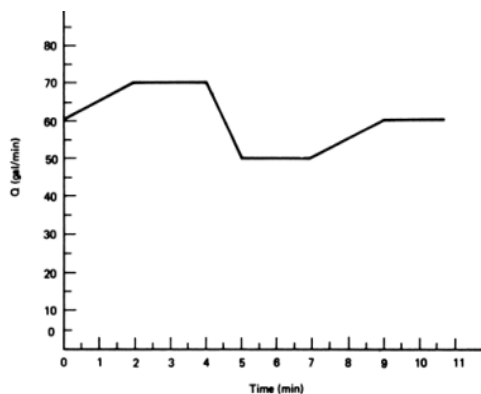

Fig Q4A
- 4A. A PI controller is used to control flow within a range of 20 to 100 gal/min. The set point is 60 gal/min, and the controller output drives a valve with a 3- to 15-psi signal. The controller settings are direct action, $K_P = -0.9$, $K_I = 0.4\text{ min}^{-1}$. Plot the pneumatic pressure for the flow of Fig Q4A. Assume an initial pressure output of 10.8 psi. **4**